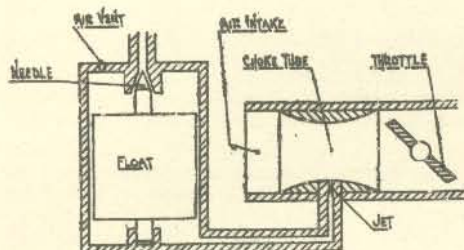
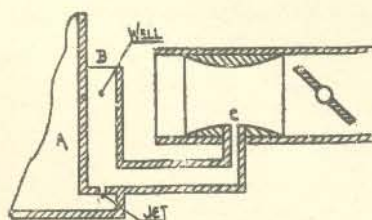
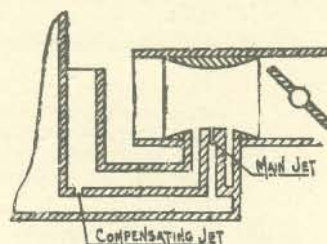
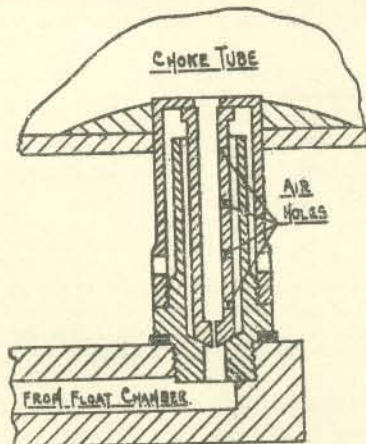

FIG. 4.—"Simple" carburettor.
FIG. 6.—Principle of compensating jet.
FIG. 7.—Zenith compensation.
FIG. 8.—Diffuser compensation.
Fig. 4 shows a simple type of carburettor. The float, needle and needle seating control the level of petrol in the carburettor, allowing the petrol to flow in when the level is low, and shutting it off when the level reaches the top of the jet. When the engine is on its inlet stroke the pressure in the inlet pipe is lowered, sucking petrol through the jet and air through the choke tube at a rate depending on the sizes of these components and the pressure difference between the inlet pipe and the atmosphere. In addition to regulating the flow of air, the choke tube increases the speed of the air, at a point where it passes the jet, sufficiently to break up the petrol into a fine spray. The throttle regulates the amount of mixture passing to the engine, so controlling the speed and power of the engine.
(b) *"Zenith"*.—Fig. 6 shows an arrangement in which the jet does not open directly into the choke tube, but into a U-tube. One end of this U-tube (B) is open to atmospheric pressure, whilst the other end (C) is under the pressure prevailing in the choke tube, the float chamber (A) also being under atmospheric pressure. When the engine is not running the
Fig. 7 shows the compound jet arrangement used in the Zenith carburettor (Meadows engine). Petrol is drawn into the choke tube via two concentric tubes, the central one forming the main jet (which is of the type shown in fig. 4) and the outer one fed with petrol from the "compensating jet" (which is of the type shown in fig. 6). The jets and choke tube are of suitable sizes to form a suitable mixture at any speed: if speed rises, the mixture produced by the main jet gets richer whilst that produced by the compensating jet gets weaker, the combined mixture from the two jets together remaining practically constant throughout the speed range of the engine.
- (c) "Diffuser"—Referring again to fig. 6, if the opening of B to atmospheric pressure is completely blanked off, fuel is drawn from the jet solely by the lower pressure at C, i.e. the carburettor behaves as in fig. 4 and the mixture gets too rich as engine speed rises, instead of too weak. There must, therefore, be some degree of opening of B to the atmosphere which will result in an unvarying mixture strength at all engine speeds: this principle is used in the Solex carburettor fitted to the 750 watt Norman-Lyon set, fig. 8, showing the arrangement of the jet. As the level in B falls, successive holes are uncovered which admit air: their size and position is such that the mixture is kept constant.